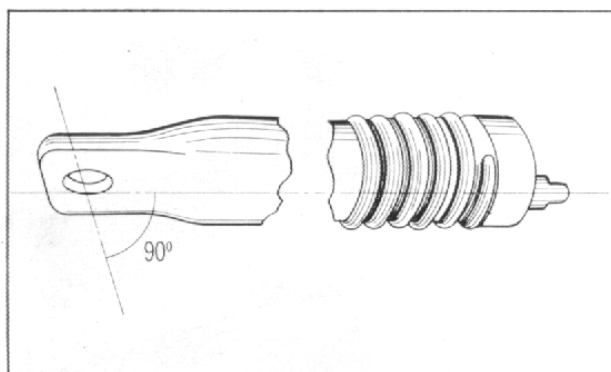

Fig. 69
- (1) In assembling the front cushion, it must be so assembled that the lug on the upper holder be perpendicular to the flat part of the fork slide pipe. (Fig. 69)
- (2) Apply grease inside the cushion housing spring, dust seal, upper and under holders.
- (3) When replacing the spring with a new one, grease should be applied on the new parts as above.
- (4) In assembling the spring to the upper holder, vinyl tape wound around the holder apt to result in damage, re-wind it with new tape if required.